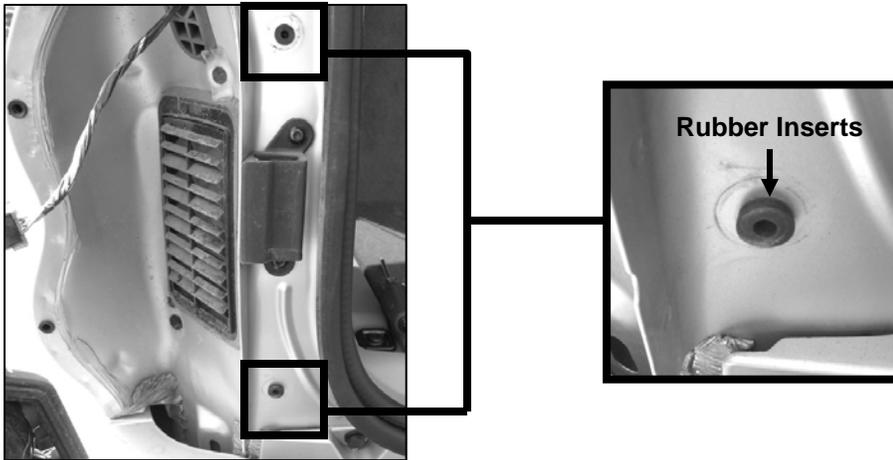

Figure 3
- Insert (1 ea) Rubber Insert into each factory hole where you removed the plastic clips (**Figure 3**).